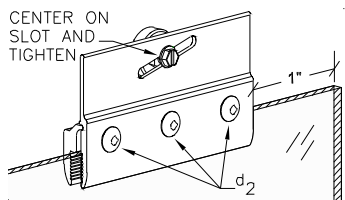

figure 5
If you are furnishing your own glass panel for this unit . . . proceed to step 8, now. If the glass panels came with the unit you purchased, then the bracket assemblies (d1 thru d4) in the parts table are already installed. Center your Nylon Rollers (d3) on the Hanger Brackets and tighten down on the Rollers Screws (d4) as shown in figure 5 and proceed to step 9, now.
8. Using Bracket Screws (d2), loosely assemble the two piece Hanger Bracket Assemblies (d1). Do not install rollers at this time. Position brackets over glass edges as shown in exploded view - sheet 1 and figure 5 on this sheet. Position the Hanger Brackets an inch from vertical edge of glass as shown and tighten down on the screws (allen wrench required). Next install the rollers as shown and tighten down on screw.